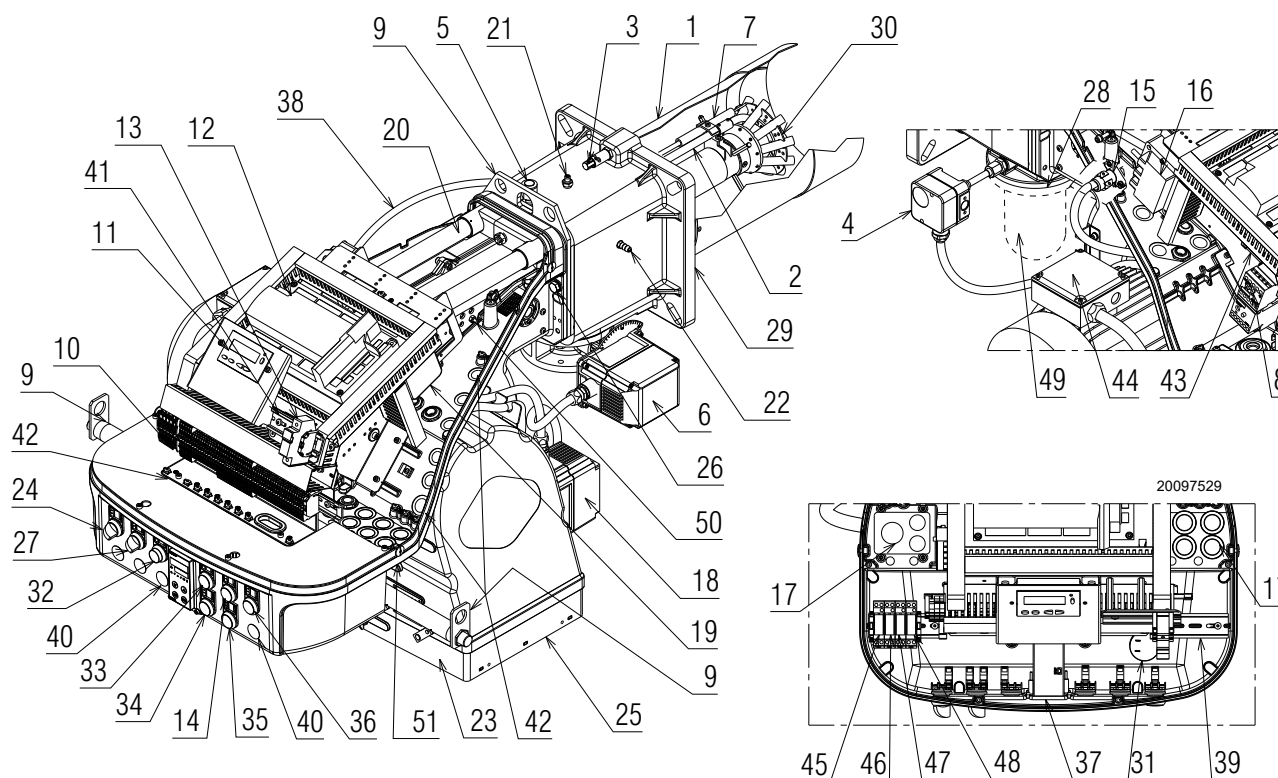

Fig. 3
(1) Reference conditions: Ambient temperature 68 °F (20 °C) - Barometric pressure 39.4" WC - Altitude 329 ft.
(2) Pressure at test point 21)(Fig. 3, page 8), with zero pressure in the combustion chamber, with open gas ring 2)(Fig. 22) at maximum burner output
(3) Sound pressure measured in manufacturer's combustion laboratory, with burner operating on test boiler and at maximum rated output. The sound power is measured with the "Free Field" method, as per EN 15036, and according to an "Accuracy: Category 3" measuring accuracy, as set out in EN ISO 3746.
- Flame safeguard lock-out - if the flame safeguard alarm 36)(Fig. 3) lights up, it indicates that the burner is in lock-out. To reset, press the reset pushbutton.
- Fan motor trip - release by pressing the pushbutton on thermal overload 8)(Fig. 3). See "Thermal relay Thermal relay calibration" on page 23.